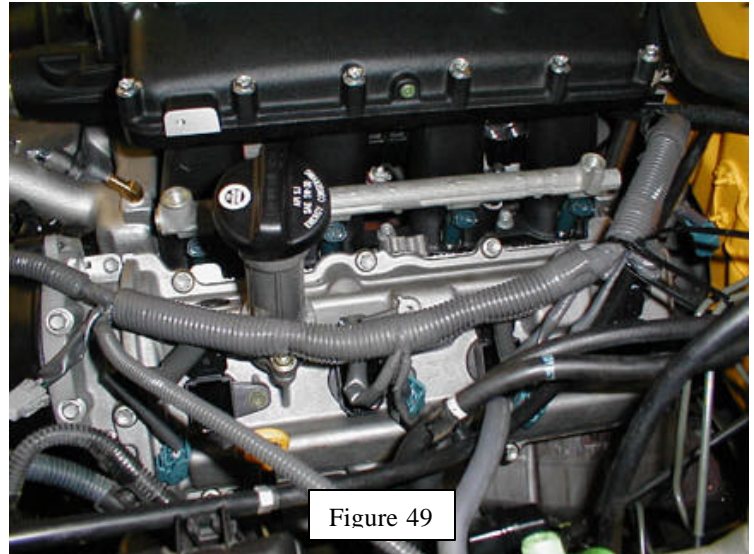

Figure 49
19. Install OE driver-side fuel delivery pipe spacers (Figure 49 and 50).
20. Install 4 insulators, 4 injectors and driver-side fuel delivery pipe (Figure 49 and 50). Use OE fuel delivery pipe nuts. Torque to 7.5 N-m (66 in.-lbf).